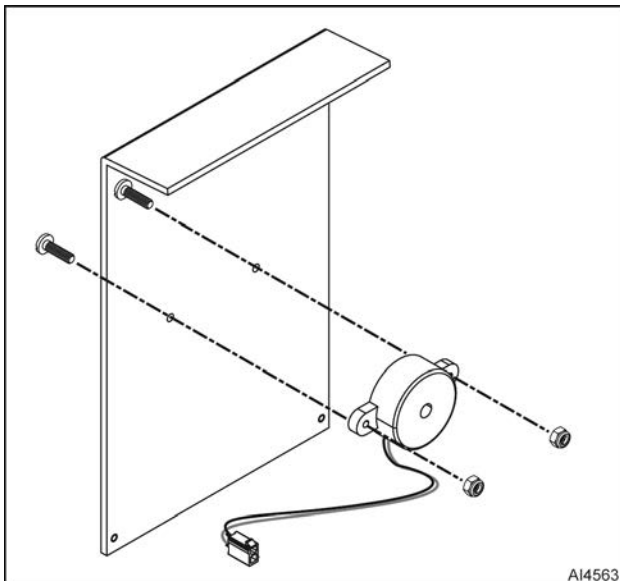

Fig. 10
5. Remove fasteners and buzzer (Fig. 10) from touch panel / display assembly cover.